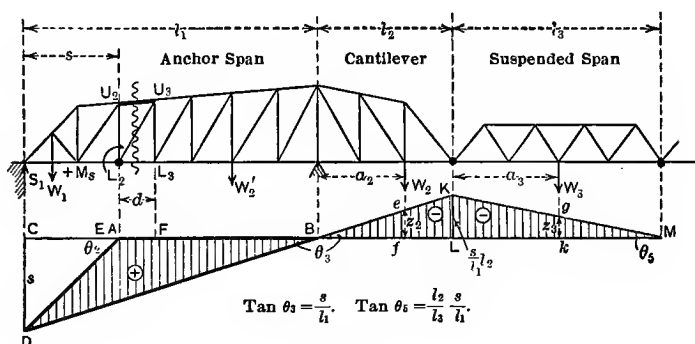

FIG. 30.
**Cantilever Truss.**—Truss bridges which are called cantilever bridges are composed of anchor spans, cantilever spans and suspended spans. The simplest form of this combination is shown in Fig. 30.
**Top Chord of Anchor Span.**—Assume any chord as  $U_2U_3$ , Fig. 30, with its center of moments at  $L_2$ . For loads in this span the influence diagram is the *base diagram* representing the moments  $m_s$  in equation (d), since the moments  $M_L$  and  $M_R$  are zero.
This is the equation for the straight line  $KM$  when  $\tan \theta_5 = \frac{s}{l_1} \frac{l_2}{l_3} = \frac{KL}{l_3}$ . The shaded area in Fig. 30 is the complete moment influence diagram for the chord  $U_2 U_3$ .